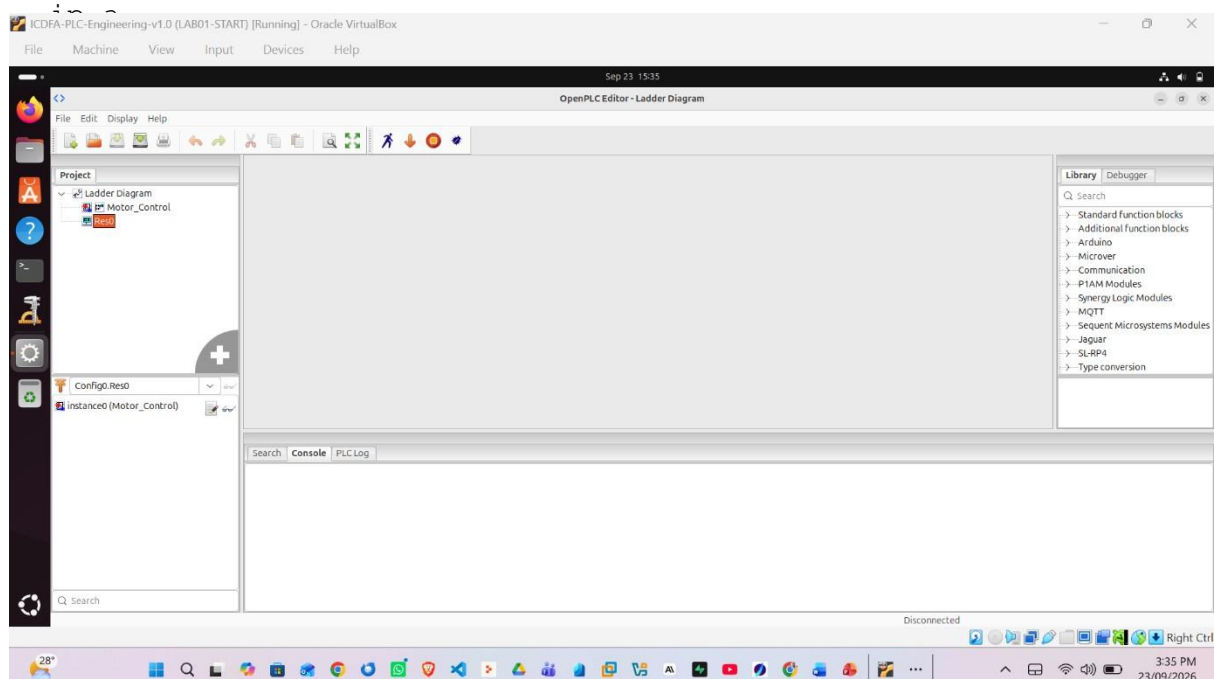

Figure 4: VM IP address confirmed as 192.168.1.10.
- Figure 4 shows the VM address 192.168.1.10, which is the expected training address for the PLC VM.